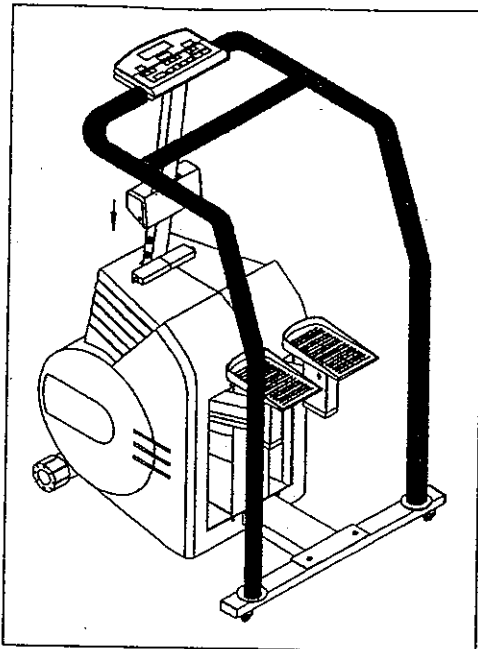

Fig.25
10. Replace the post shroud, secure with two screws (see Fig. 25 & 26).